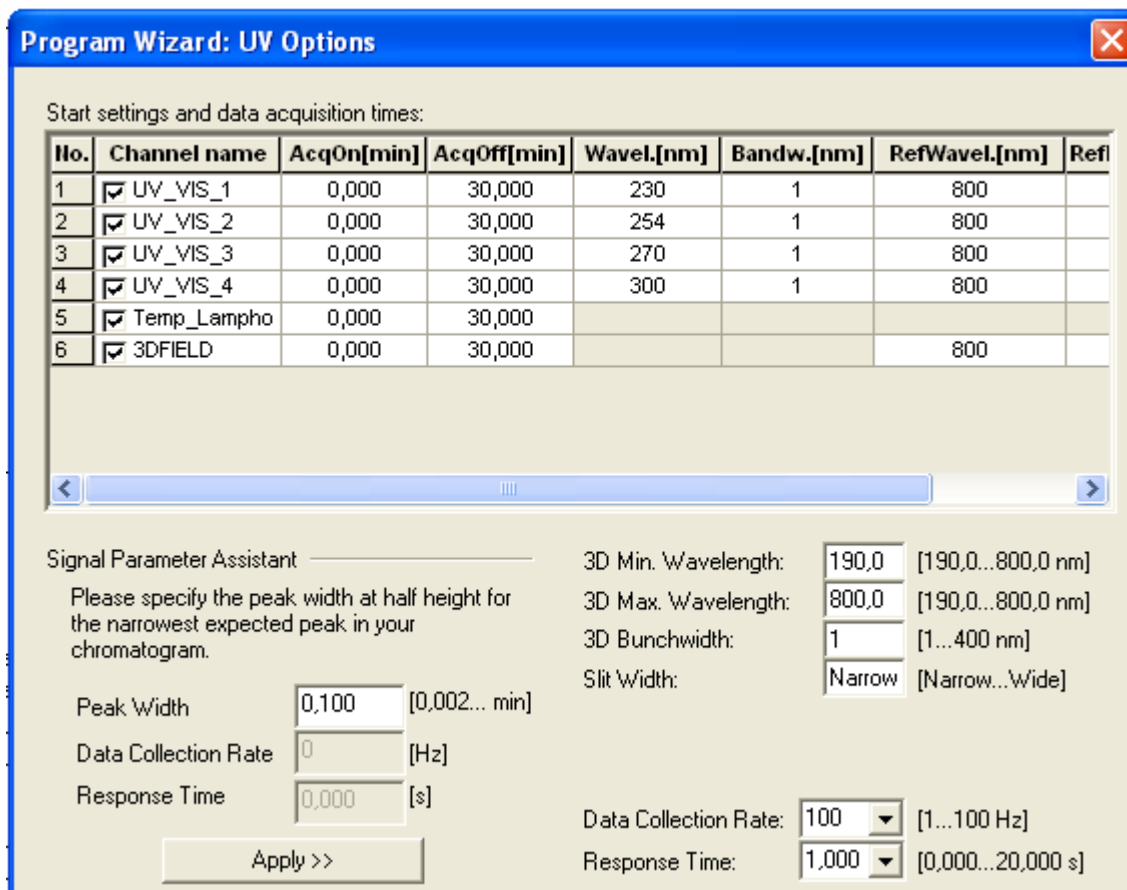

Fig. 28: UV Options page in the program wizard
- The Program Wizard in Chromeleon automatically calculates the response time (and appropriate data collection rate), based on the value you enter for peak width at half-height (→ Fig. 28, page 70).
The Program Wizard in Chromeleon automatically calculates the response time (and appropriate data collection rate), based on the value you enter for peak width at half-height (→ Fig. 28, page 70).